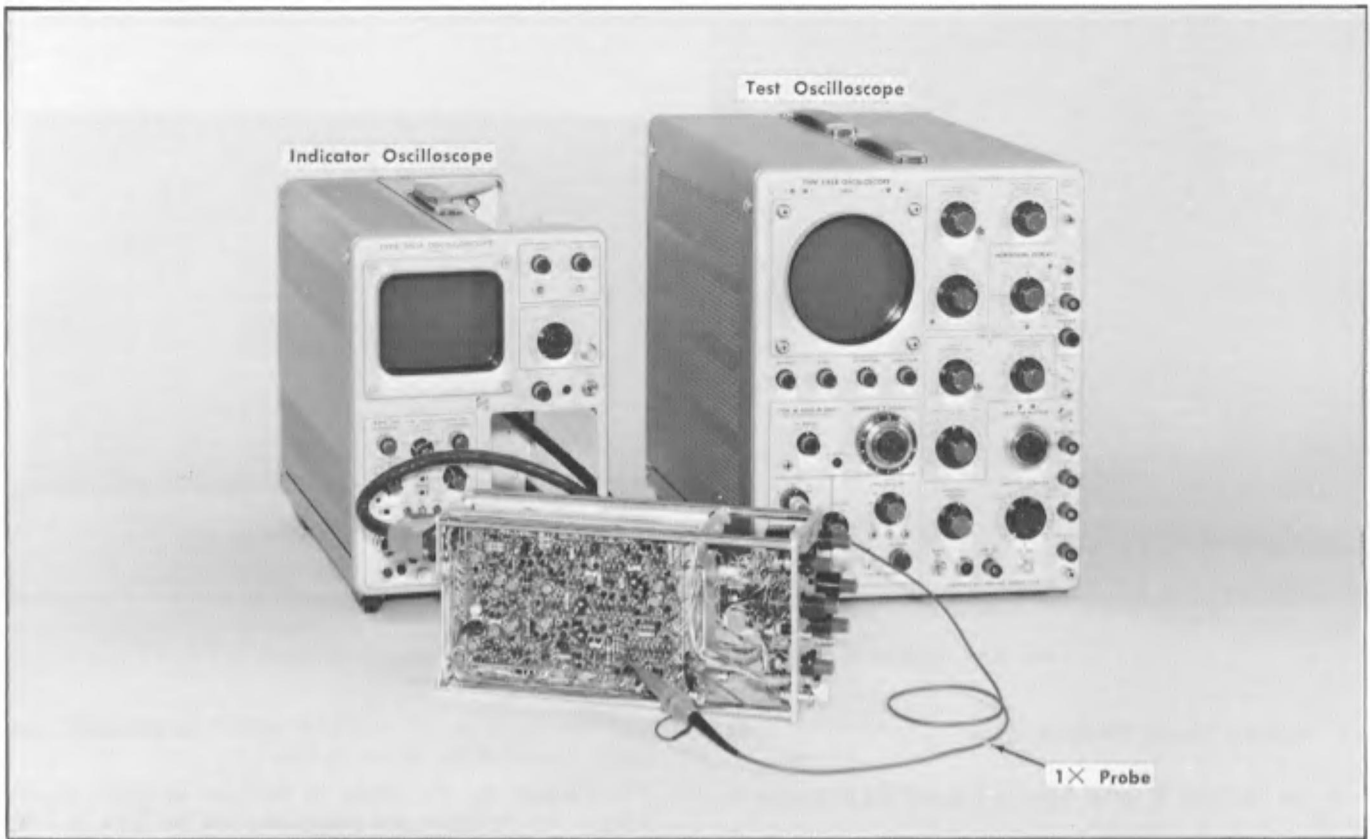
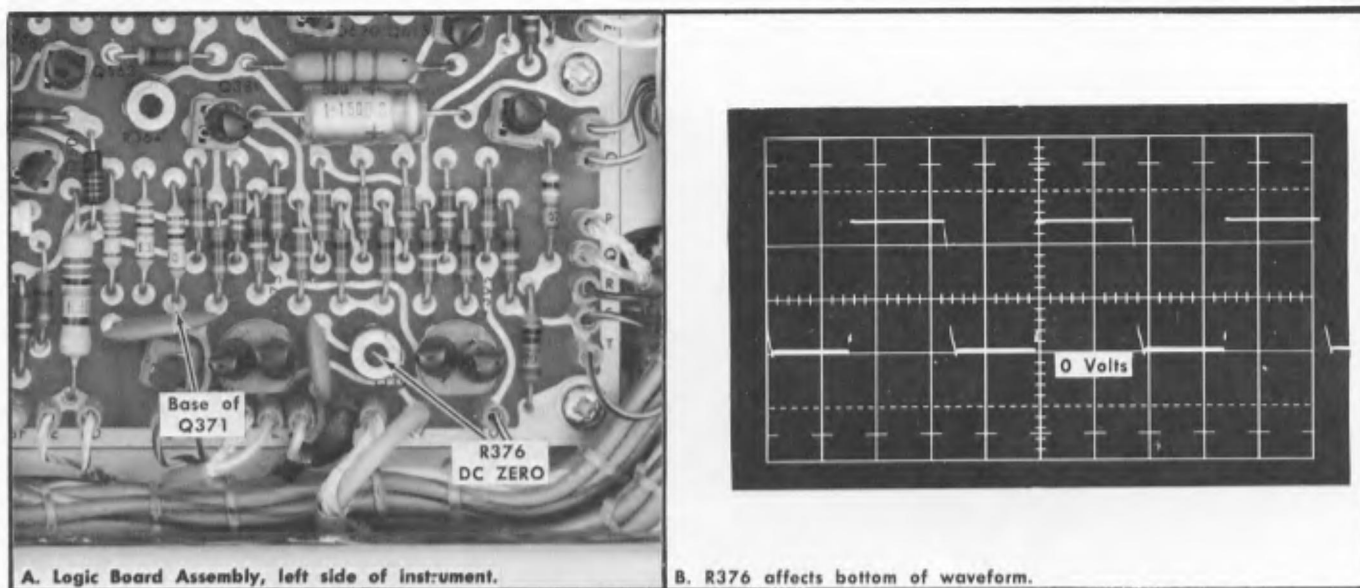

Fig. 7-18. Initial equipment setup for steps 16 through 19.
Fig. 7-19. Location and Test Oscilloscope display of DC ZERO adjustment.
a. Connect the 1 $\times$  probe from the Test Oscilloscope to the base of Q371, shown in Fig. 7-19. Test equipment setup is shown in Fig. 7-18.
c. Adjust R376, DC ZERO, to set the bottom of the waveform at zero volts; see Fig. 7-19.